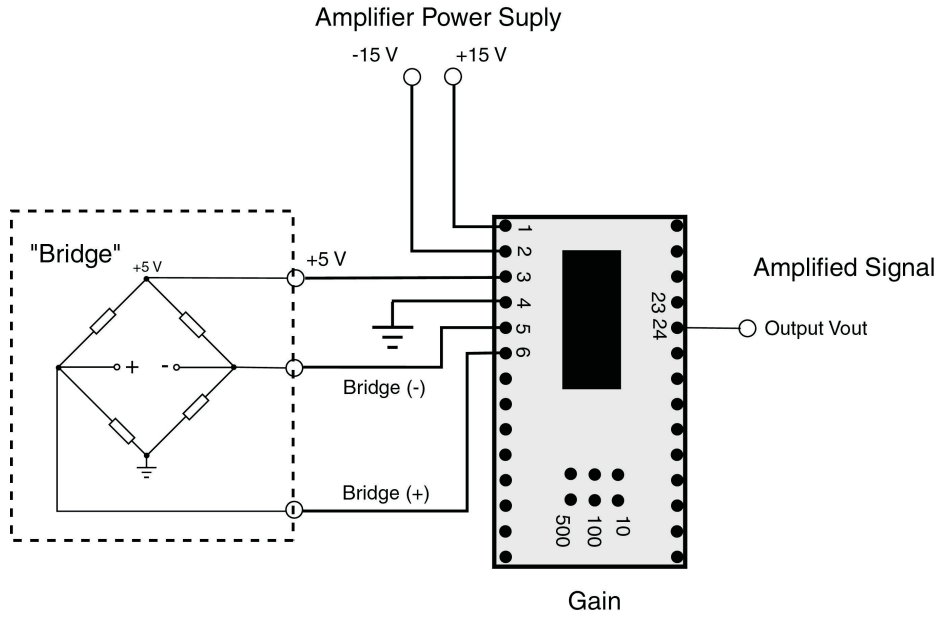

Figure 2: Amplifier circuit for connection to the deflection bridges.
- Build a deflection bridge according to Fig. 1 and connect it to the lab amplifier, according to Fig. 2.
- Connect the deflection bridge and the strain gauge sensor to the amplifier in Fig. 2.